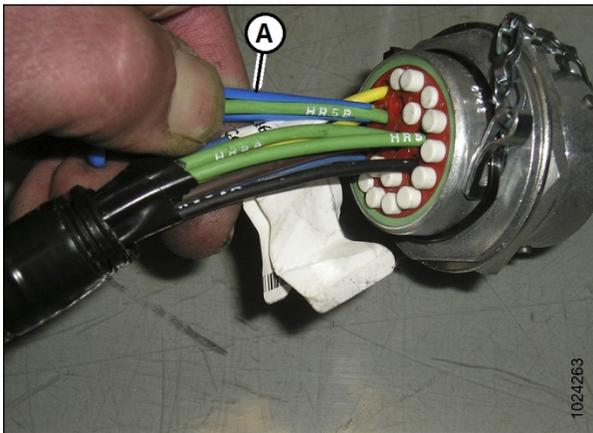
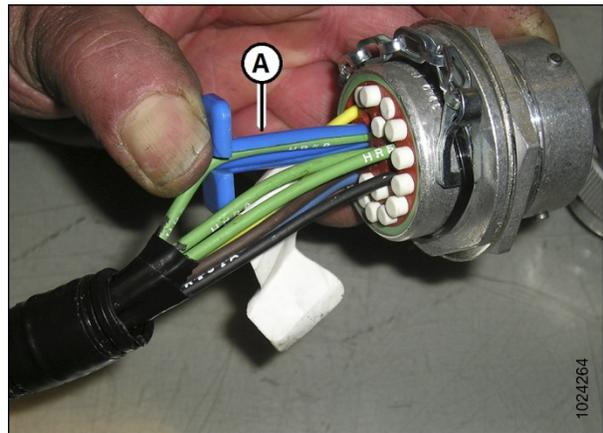

Figure 4: Setting the Contact Removal Tool
Figure 5: Contact Removal Tool Fully Inserted
6. Use contact removal tool (MD #134013) to remove the jumper wire from connector C2A positions 4 (A) and 16 (B) following the steps described in Figures 4 – 7.
- A. To use the contact removal tool, place tool (A) over the wire to be removed, then insert it into the rear of the connector as shown in Figure 4 above. Use firm thumb pressure to ensure that the tool is fully inserted into the connector as shown in Figure 5 above.